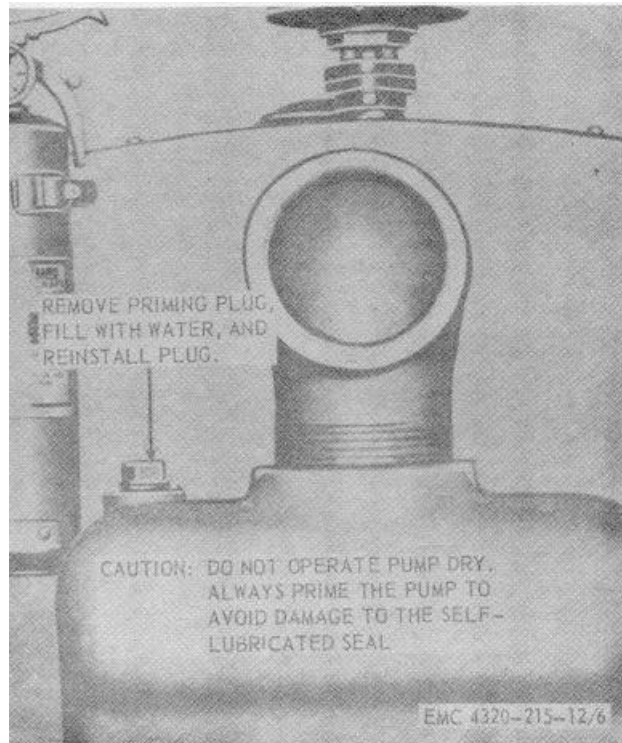

Figure 6. Pump priming instructions.
- c. In the event that the pumping unit is new or the chamber has been drained, it will be necessary to prime the pump as shown by figure 6.